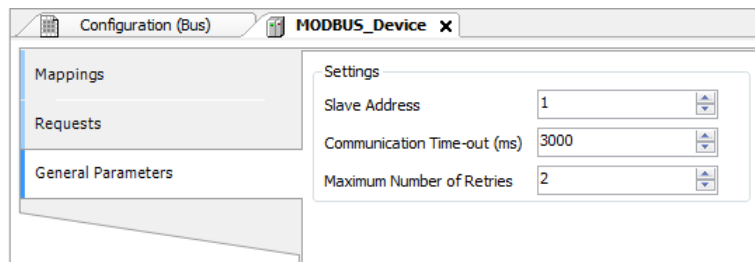

Figure 48: Device General Parameters Settings
- Add and configure devices via the General Parameters tab, defining the slave address, communication time-out and number of communication retries as can be seen in Figure 48.